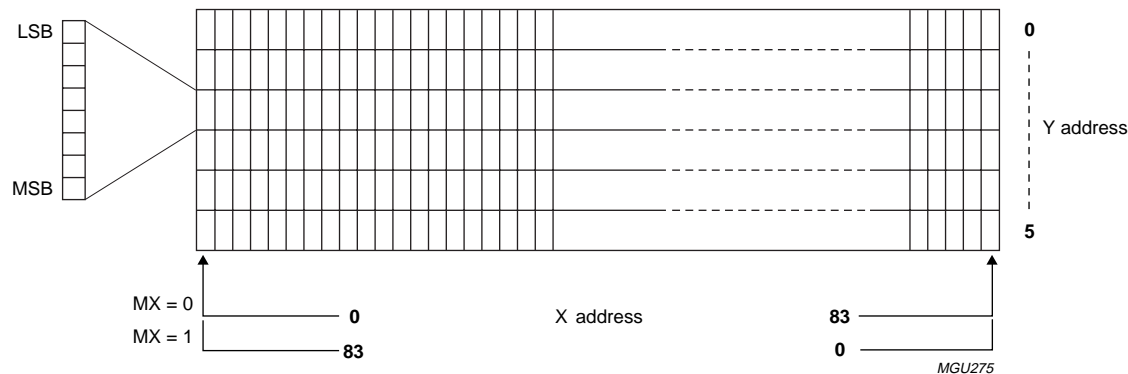
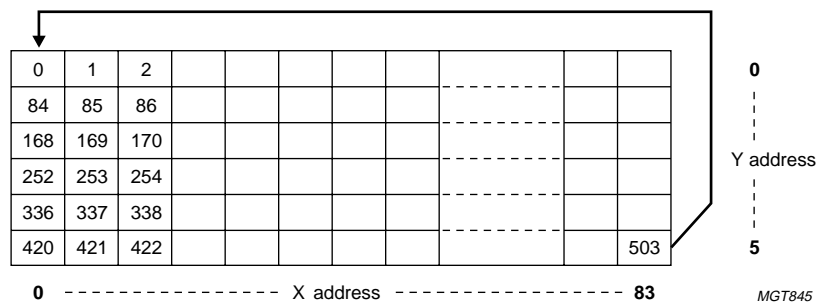

Fig.6 RAM format, addressing.
Fig.7 Sequence of writing data bytes into RAM.
Data is downloaded in bytes into the RAM matrix of OM6211 as illustrated in Figs 6 and 7. The display RAM has a matrix of  $48 \times 84$  bits. The columns are addressed by the address pointer. The address ranges are  $X = 0$  to 83 (1010011) and  $Y = 0$  to 5 (101). Addresses outside of these ranges are not allowed. The X address increments after each byte (see Fig.7). After the last X address ( $X = 83$ ) X wraps around to 0 and Y increments to address the next row. After the very last address ( $X = 83$  and  $Y = 5$ ) the address pointers wrap around to address  $X = 0$  and  $Y = 0$ .
The selection of the MX input allows horizontal mirroring: when  $\text{MX} = 1$ , the X address space is mirrored (see Fig.6). When  $\text{MX} = 0$  the mirroring is disabled. MX affects data only during writing to the RAM, so after a change of MX RAM data must be re-written.